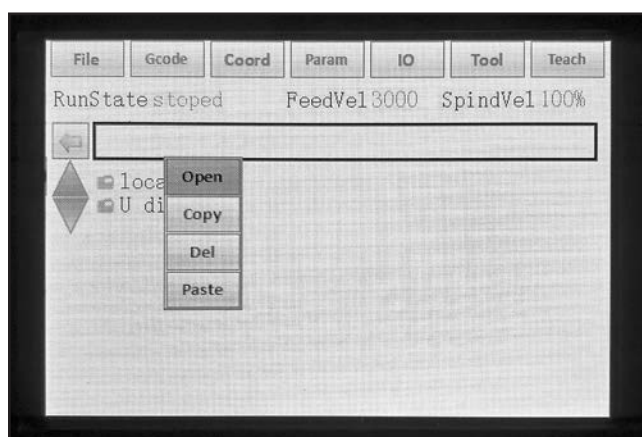

Figure 56. Example of dialog box on file screen.
2. Navigate to desired file and press "Enter" button, then navigate to "Copy" softkey (see **Figure 56**) and press "Enter" button.